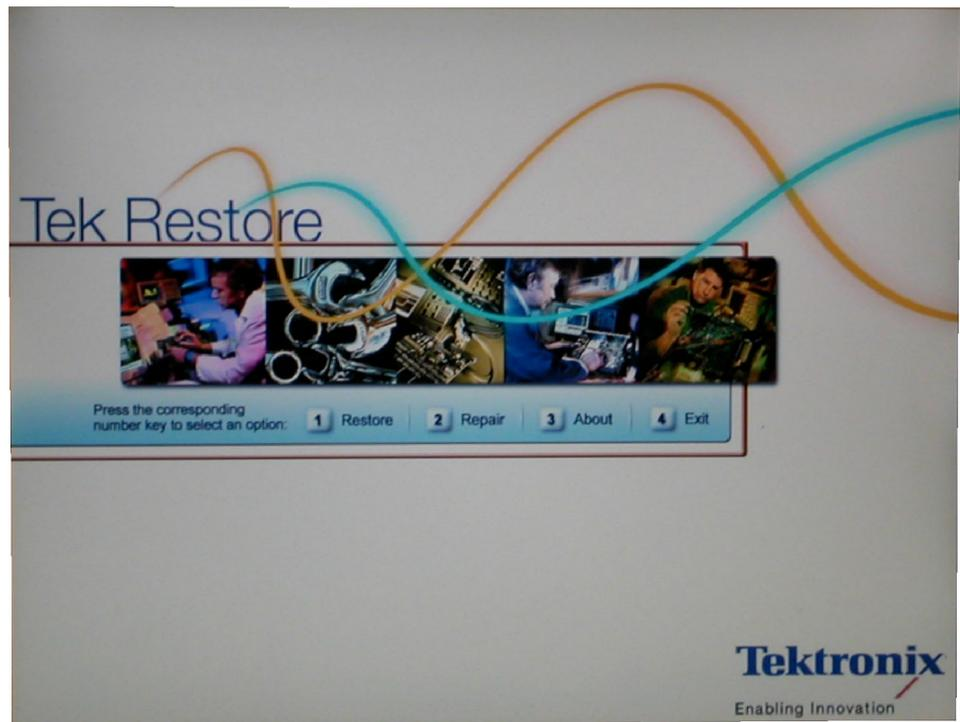

Figure 11: Operating system recovery application
2. During the boot process, insert the *MTS400 Series System Operating System Restore DVD* in the CD-ROM drive. The system will autostart the recovery application when the boot process finishes, see Figure 11.